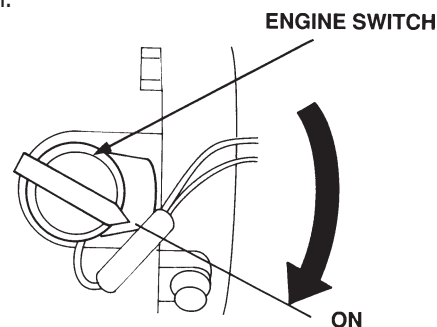

Figure 11. Engine ON/OFF Switch (ON Position)
5. Place the **engine ON/OFF switch** (Figure 11) in the "ON" position.